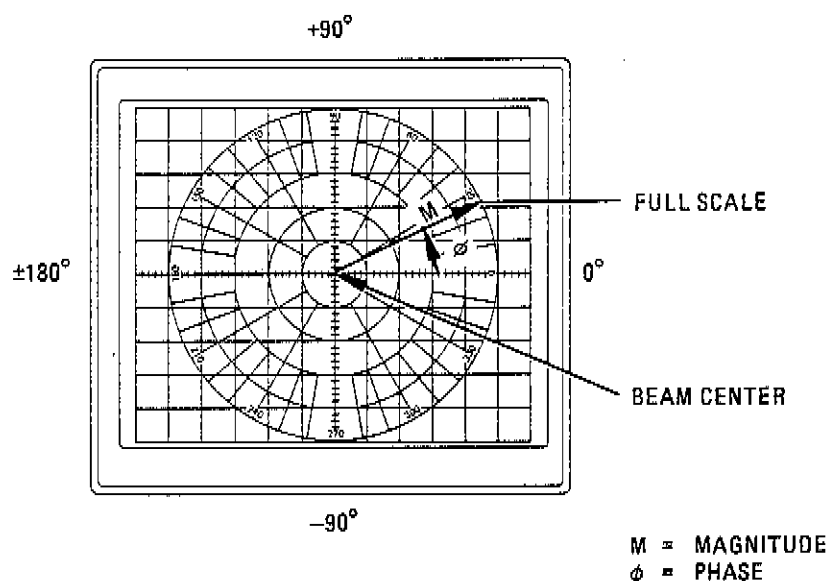

Figure D3-32A. Polar Display
The purpose of the A8 Polar Converter is to generate the deflection signals necessary to display both magnitude and phase information in a polar format on the CRT display as shown in Figure D3-32A. Instead of displaying magnitude, or phase, versus frequency, the polar display represents magnitude versus phase, where phase is the angular rotation ( $\theta$ ) from the horizontal zero degree axis and magnitude is the radial distance ( $M$ ) from the center of the display. The Polar Converter outputs are POLAR X ( $|M| \cos \theta$ ) and POLAR Y ( $|M| \sin \theta$ ). LOG AB/R provides the magnitude ( $M$ ) information and represents the Log A/R or Log B/R magnitude. This logarithmic signal is scaled, offset and then exponentiated to produce a linear representation of the difference in magnitude of the test port input (A or B) and the reference port input (R). The LINEAR output from the exponentiator is used to amplitude modulate the IF LS POLAR input from the A10 Phase Offset Assembly and develop a 100 kHz IF signal that contains both magnitude and reference port (R) phase information. After the IF LS POLAR signal is amplitude modulated, it is mixed with the BPF IF TEST (A or B phase) input to generate the POLAR X ( $|M| \cos \theta$ ) output. The POLAR Y output ( $|M| \sin \theta$ ) is generated by first shifting the amplitude modulated IF LS POLAR signal by  $-90$  degrees, then mixing it with the BPF IF TEST input.